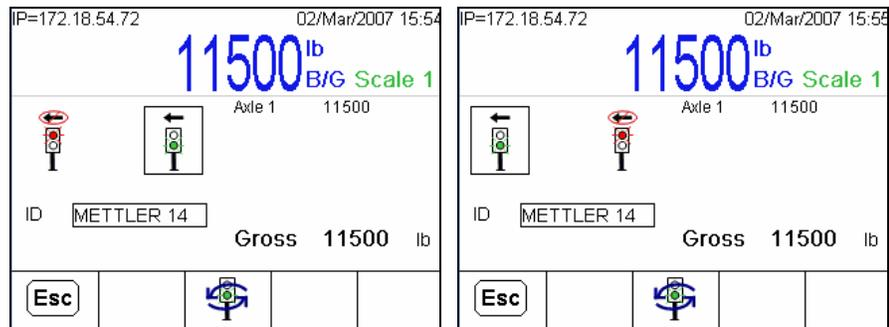

Figure 6-24: Changing Focus Between Lights
3. Initially, the exit light is in focus, indicated by the box around its icon. Press ENTER or the UP/DOWN arrow keys to change focus to the other light (Figure 6-24).